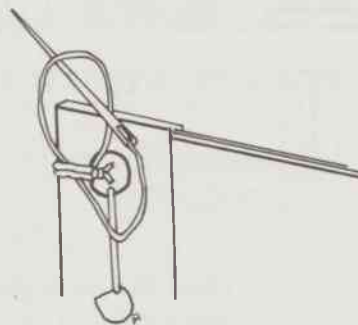

Figure 13.
- m. Tie off the string by inserting the needle under the knot and pull the string almost through the knot. Then insert the needle through the loop formed by the string and pull tight to form a knot. You should now have a double knot (Figure 13).